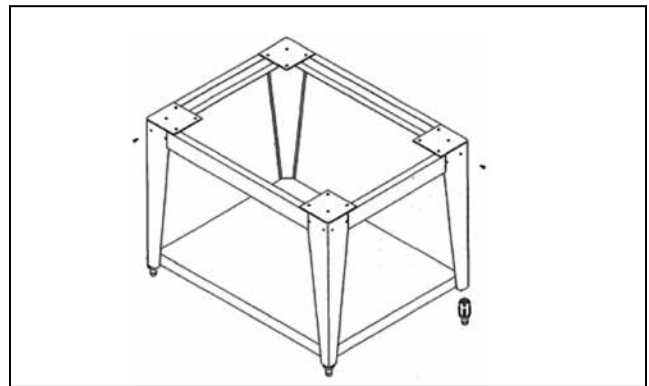

Figure 1
2. Secure top frame parts to the legs with bolts provided (long-angle- front & back. Short angle - side). See Figure 1.